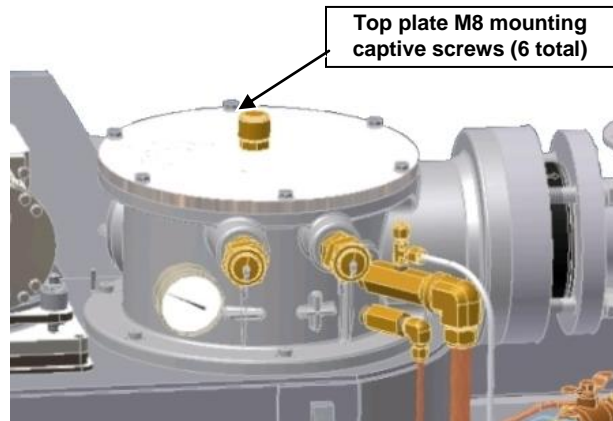

Figure 7-2 (OPEN-X shown).
1. Loosen the six M8 captive screws that secure the top plate to the top casting until finger-tight (Figure 7-2).